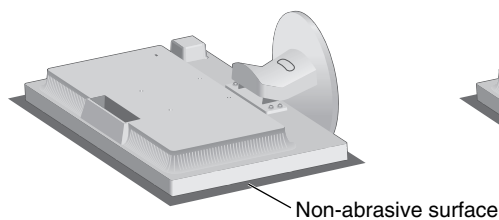

Figure R.1
2. Place monitor face down on a non-abrasive surface (**Figure R.1**).
1. Place monitor face down on a non-abrasive surface (**Figure R.1**).